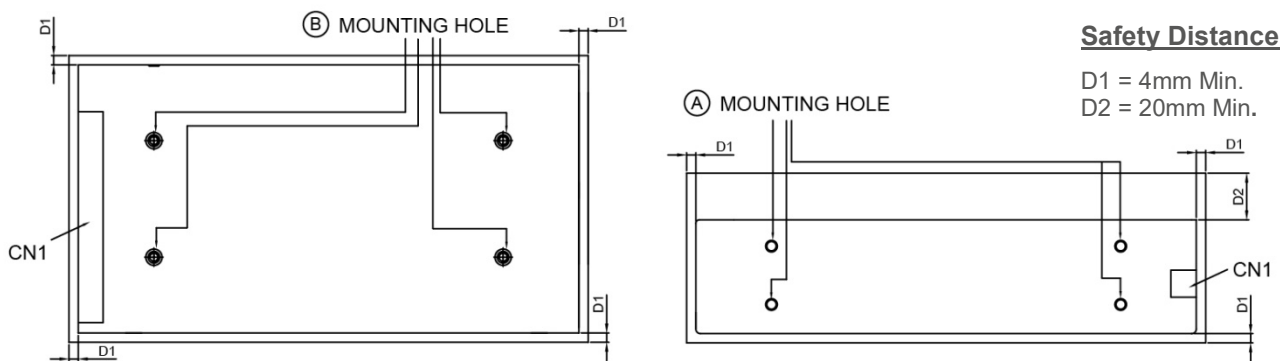
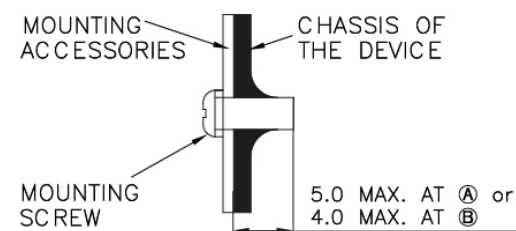

Fig. 3 Mounting Hole Locations and the Safety Distance
Fig. 4 Assembly Reference
- Ⓐ Side Mounting: Fig. 2 and Fig. 3 show the mounting hole locations for power supply assembly onto a metal mounting surface. The power supply shall be mounted on minimum of 4 mounting holes using M4 screw maximum 5 mm (0.20 inch) length (Refer to Fig. 4). This is to maintain a safety distance between the screw and internal components.
- Ⓑ Base Mounting: Fig. 2 and Fig. 3 show the mounting hole locations for power supply assembly onto a metal mounting surface. The power supply shall be mounted on minimum of 4 mounting holes using M4 screw maximum 4 mm (0.16 inch) length (Refer to Fig. 4).